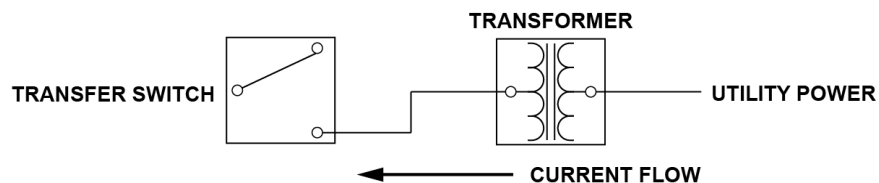

Figure 2: Installing the CTs
2. Install the CTs on the transfer switch bus bars, as shown in Figure 2.